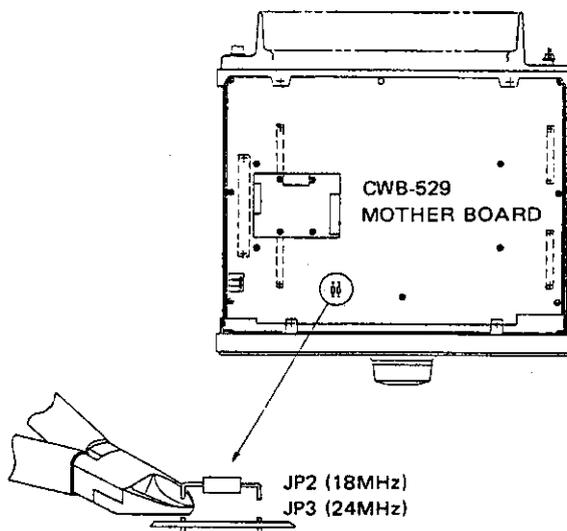

Figure 5.8 WARC Band Jumper Wires
2. Remove the jumper wire of JP2 or JP3 on the CWB-529 MOTHER BOARD unit. (Refer to Fig. 5.8.)